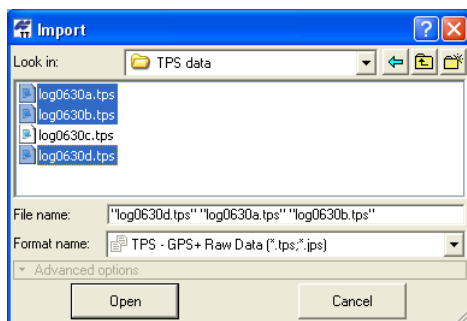

Figure 3-17. Import GPS Raw Data File
- TPS/JPS files are the raw data files logged by Topcon receivers (Figure 3-17 on page 3-22).